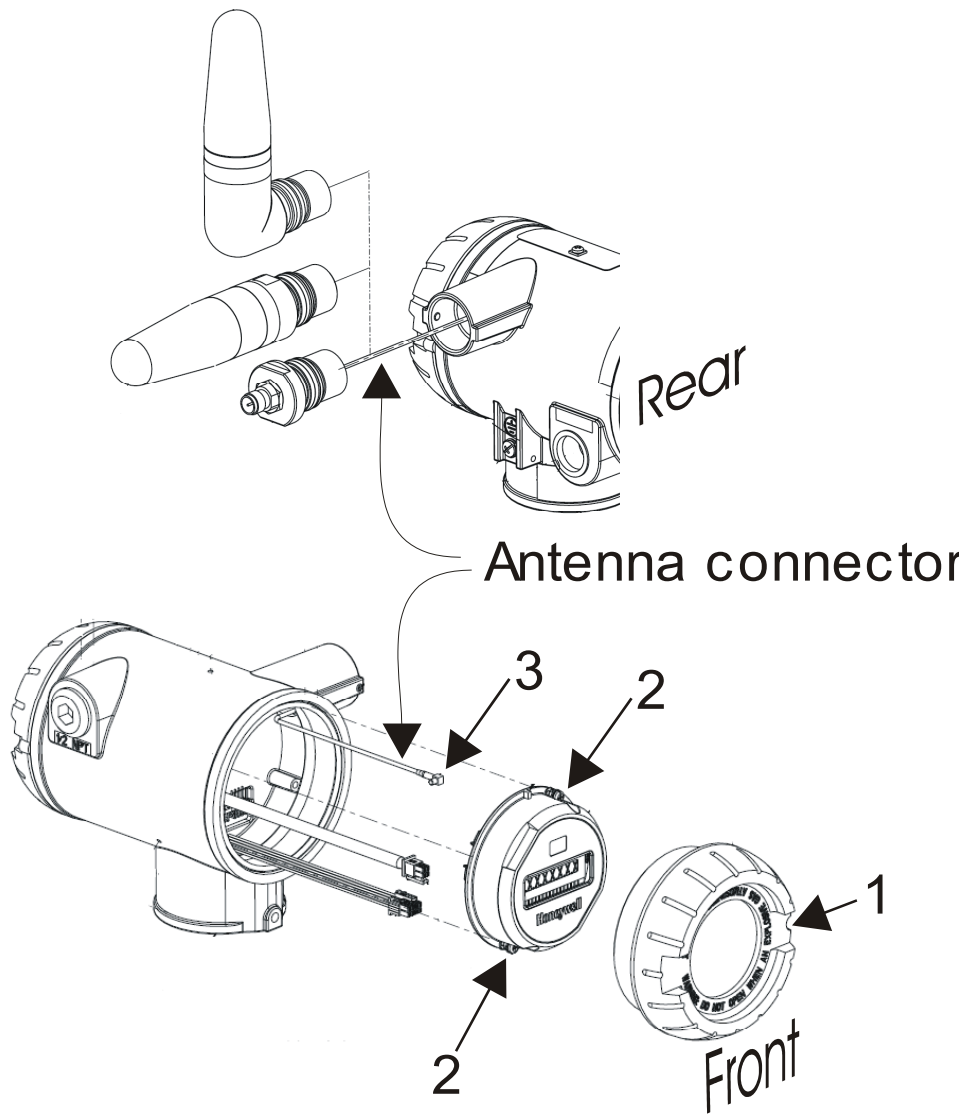

Figure 10 Antenna replacement
2	Loosen the M3 locking set screw on the display end-cap. See item 1 in Figure 10. Unscrew and remove the front end cap.
3	Loosen the two screws on the sensor module. See items 2 in Figure 10.
4	Remove the sensor module from the transmitter body and disconnect the antenna connector from CN2 connector on the sensor module. See item 3 in Figure 10.
5	Loosen the locking set screw at the antenna base. Unscrew the antenna from the transmitter. Remove the antenna and its connector from the transmitter. See Figure 10.
7	Attach antenna connector to CN2 connector on sensor module. See item 3 in Figure 10.
8	Insert sensor module. Orient in the proper viewing orientation before tightening two sensor compartment screws. See items 2 in Figure 10. Torque screws to 0,4 – 0,6 N-M (3.5 – 5.3 Lb-in).